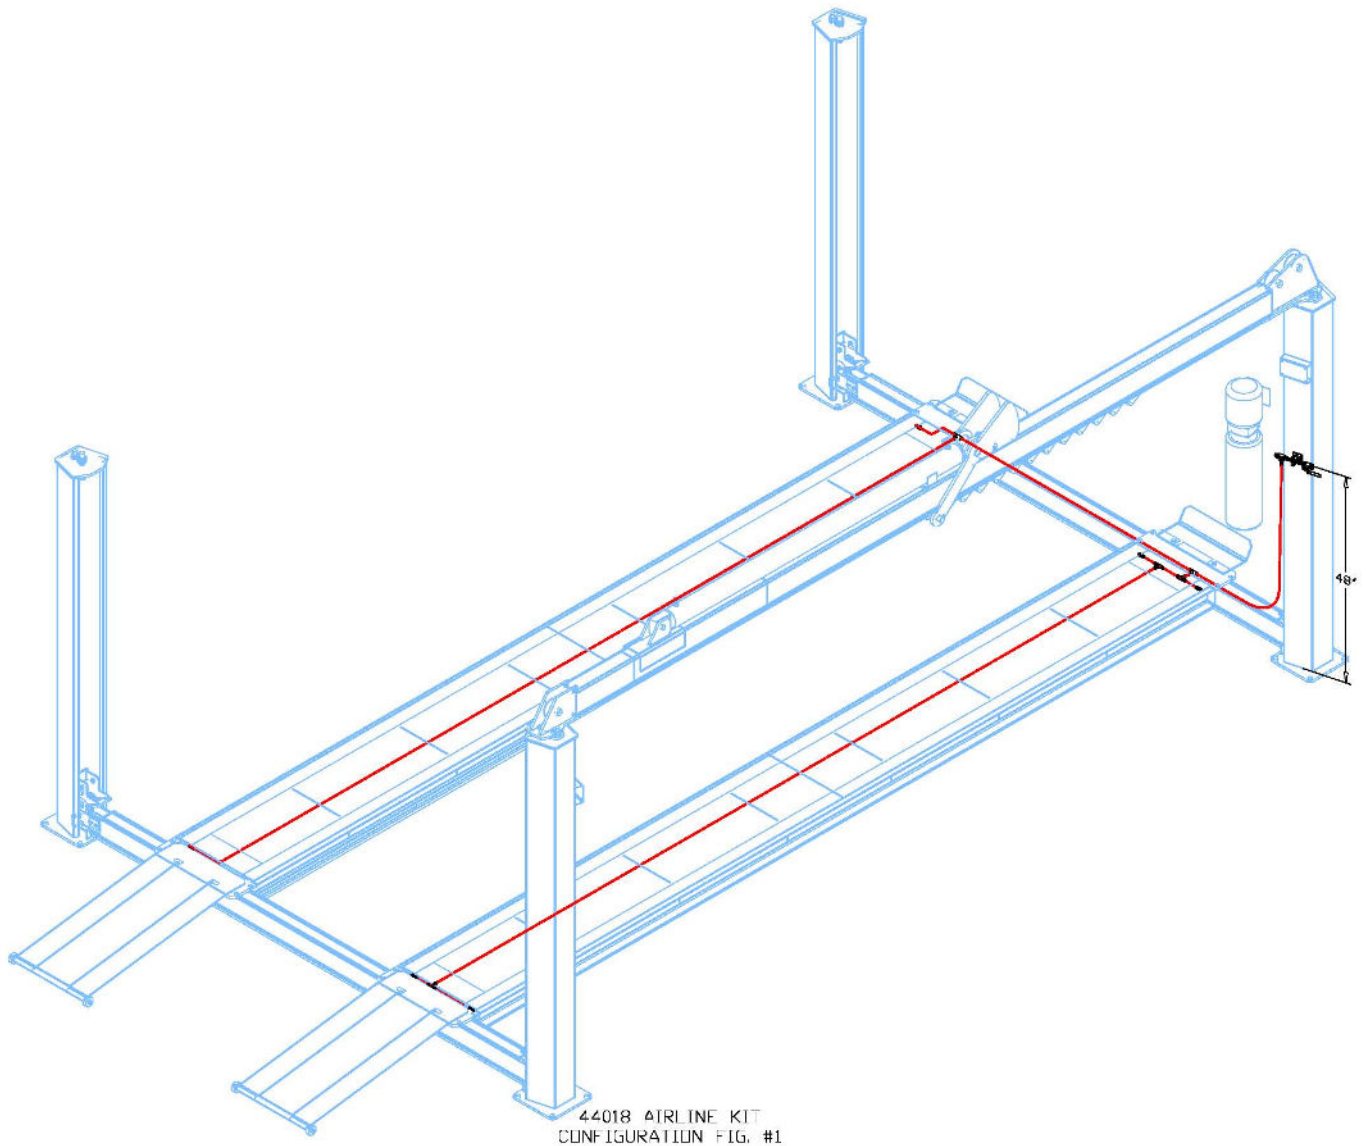

Figure 1
1. Using the pneumatic bracket as a template, drill two Ø3/8" holes centered on the power unit column 48" from the top of the base plate as shown in **Fig 1**.